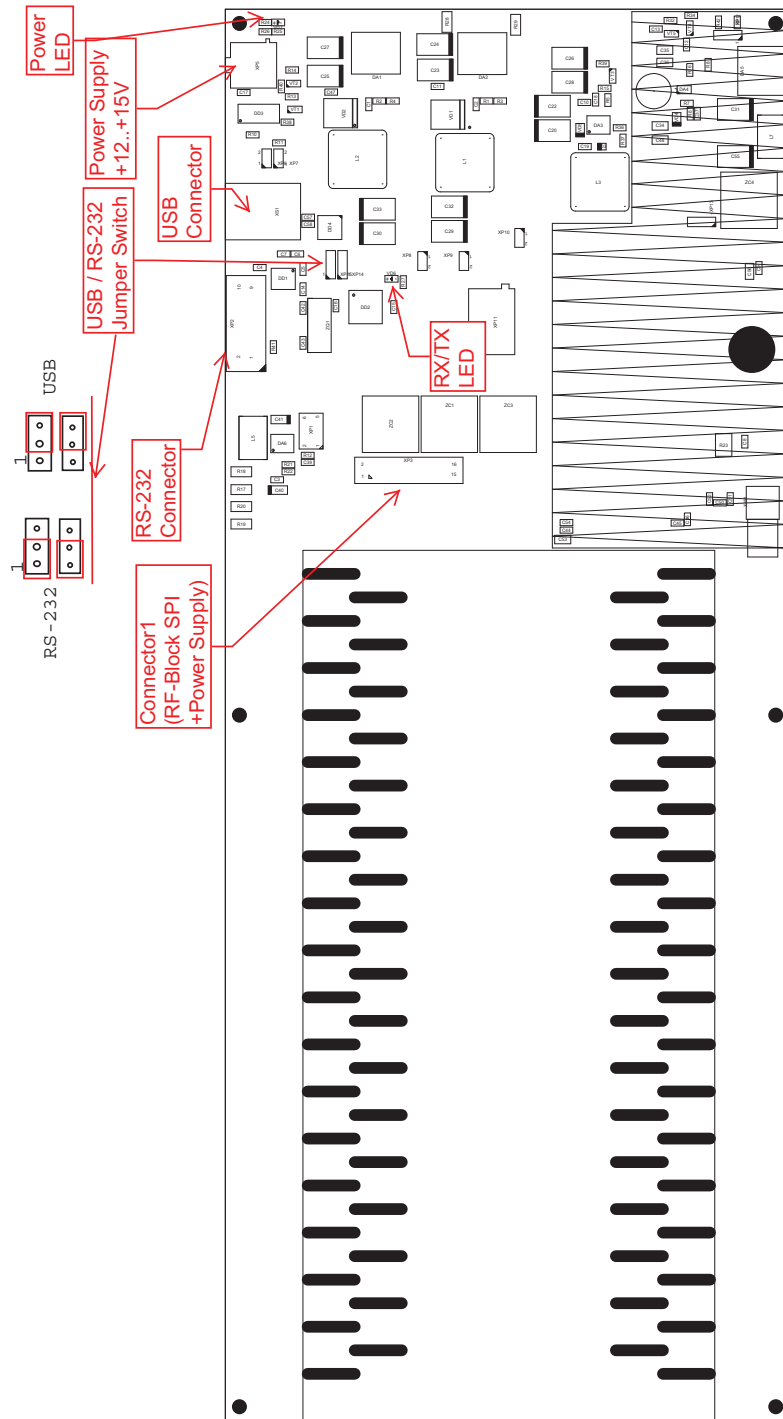

Figure 4: RS2SPI Evaluation Board
LNO-6xM-KIT includes LNO Frequency Synthesizer and RS2SPI evaluation board (fig. 4). LNO-SS6xM-KIT also includes DSG-3xM-RF frequency synthesizer as the reference frequency source which is used for additional spur suppression and enhanced synchronization capability (see section 1.3). It is designed for quick start and helps to understand SPI protocol command set and algorithms used to control LNO synthesizer. All SPI commands which sent to the module are displayed in log window of the application. So you can easily check yourself while debugging of your own control system of the synthesizer. For remote control of LNO (LNO+DSG) module follow the steps below.
1. Connect LNO module to the RS2SPI board (*Connector 1* located on the top side of the board, see fig. 4) via SPI cable (16-pin, 2-mm pitch, IDC flat cable).
3. Connect RS2SPI board to PC via USB or RS-232 cable (see jumper positions for USB/RS-232 use on fig. 4)